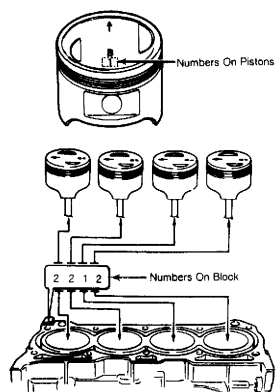

Fig. 15: Matching Pistons To Cylinders
3) On all models, standard pistons are available in 2 sizes. Piston diameter is determined by numerical mark ("1" or "2") stamped on piston crown. See Fig. 15.
4) Cylinder bore diameter is determined by numerical mark ("1" or "2") stamped on cylinder block. Numerical marks on cylinder block, read left to right, indicate bore sizes of cylinders No. 1, 2, 3 and 4, respectively. See Fig. 15.